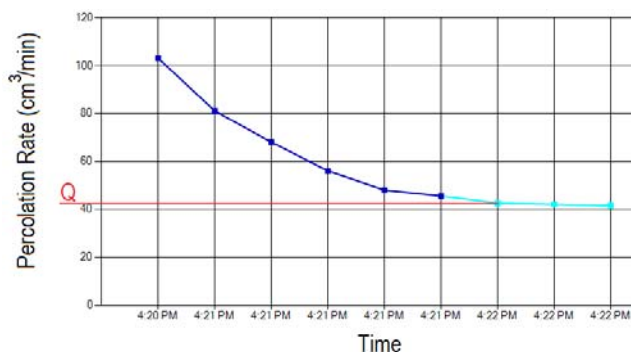

Fig. 29. Soil-water infiltration rate over time and Steady Flow Rate (Q).
Determine the Steady Flow Rate (Q). It is established when “Water Consumption Rate” (flow rate) does not change significantly over several consecutive readings. Obviously “Water Consumption Rate” would not be exactly equal between consecutive readings even when a steady flow has been established. Using the Water Consumption Rate graph against time is a useful tool for determining Q. In this graph, the horizontal phase of curve (parallel with time axis) represents the amount of Q. In Table 1, since “Water Consumption Rate” does not change from Reading 10 to Reading 14, we assume that the Steady Flow Rate (Q) is 10 ml/min. Fig. 29 is the graphical presentation of the same data. For converting Q unit from ml/min to gallon/s, it has to be multiplied by 0.000264.